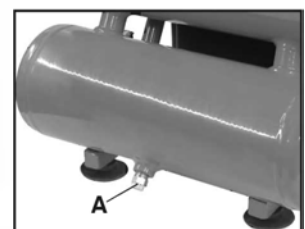

FIGURE 5
### TANK PRESSURE GAUGE (C) FIG. 5
### DRAIN VALVE (A) FIG. 5
- 5) Drain water from air tank. Turn drain valve (A) Fig. 5 counterclockwise to open.